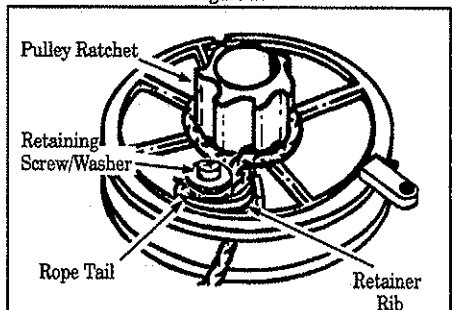

Figure 18
12. Wrap rope counterclockwise around the pulley ratchet and tuck the loose end back under the rope, leaving about a 1 inch (25 mm) tail next to the retainer rib. Figure 18.
13. Install and tighten the retainer screw and washer. Figure 18.